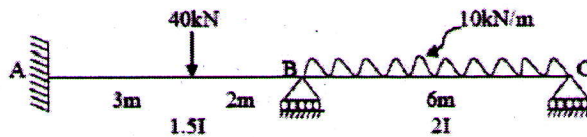

Fig.1
| | b) Analyse the continuous beam shown in fig.1 by Three moment equation and draw the BMD and SFD. Given $EI = 3200 \text{ kNm}^2$. | (10) |